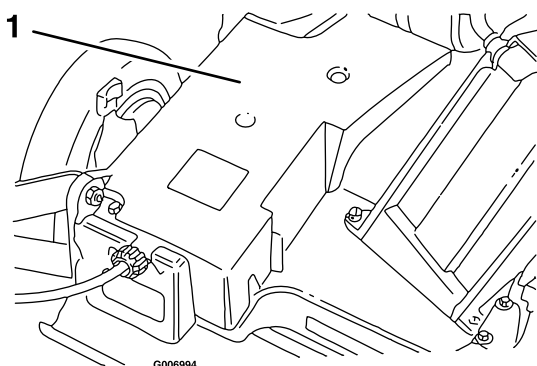

Figure 34
3. Remove the bolts that secure the belt cover to the lawn mower housing (Figure 34).